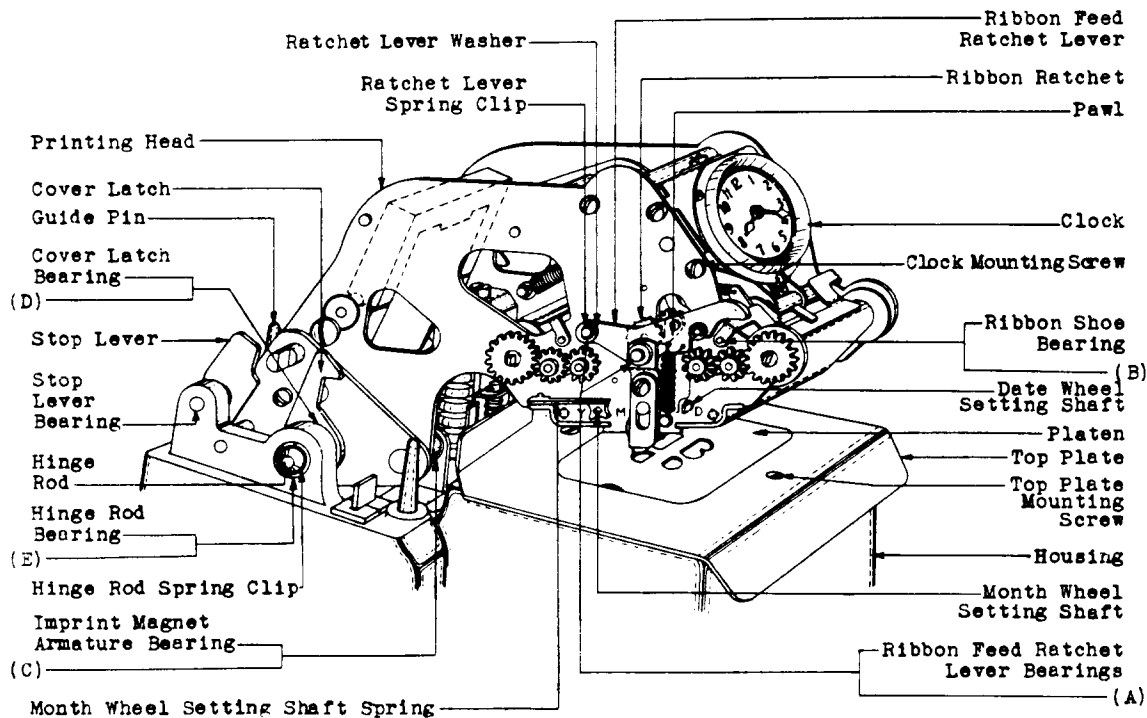

Fig. 1 - Stromberg Time Stamp
Ribbon Feed Ratchet Lever Bearings and Associated Gear Train Bearings - Fig. 1 (A)
Ribbon Shoe Bearing - Fig. 1 (B)
Imprint Magnet Armature Bearings - Fig. 1 (C)
Cover Latch Bearings - Fig. 1 (D)
Hinge Rod Bearings (at housing and printing lead) - Fig. 1 (E)